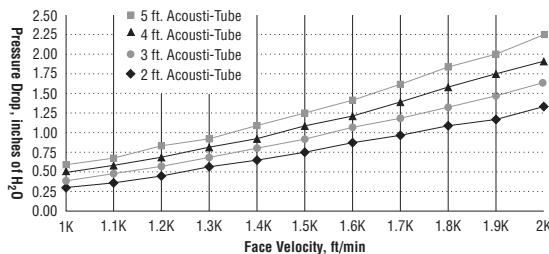

Figure 1
- Determine the allowable pressure drop and ACFM for your application.** In Figure 1, find the Y-axis value for the allowable pressure drop. Read straight across the graph to the pressure drop curve. The corresponding X-axis value is the maximum face velocity that will maintain the pressure drop requirement.